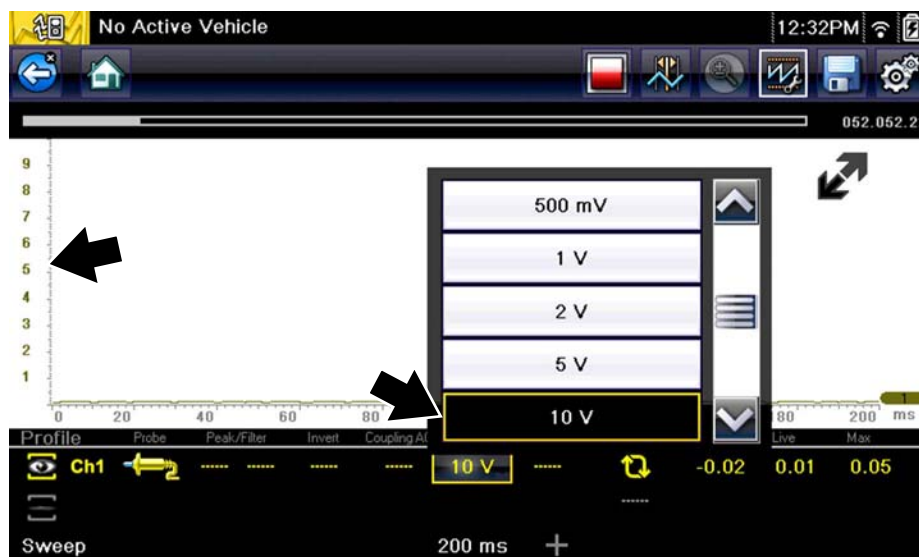

Figure 5-29
**Example (Figure 5-29):** Selecting 10V, changes the vertical scale to a 10V volt scale. The vertical scale is “always” divided by 10, therefore each division is incremented by 1V.